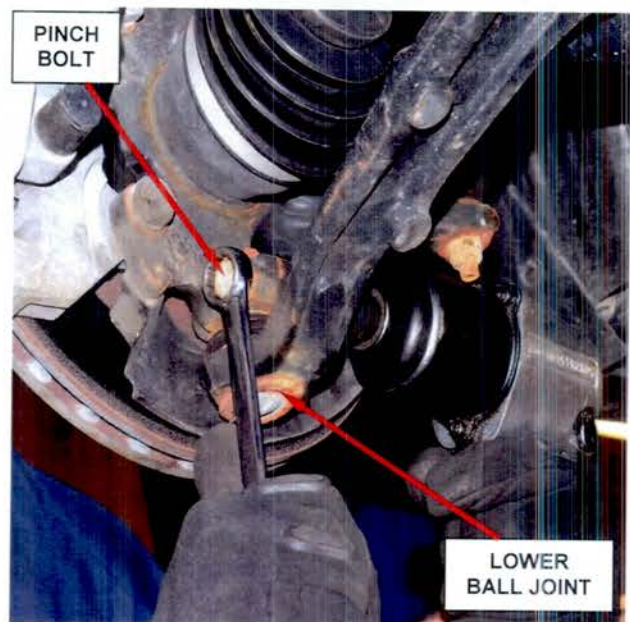

Figure 5 – Lower Ball Joint Pinch Bolt
4. Remove and discard the lower ball joint pinch bolt and nut (Figure 5).